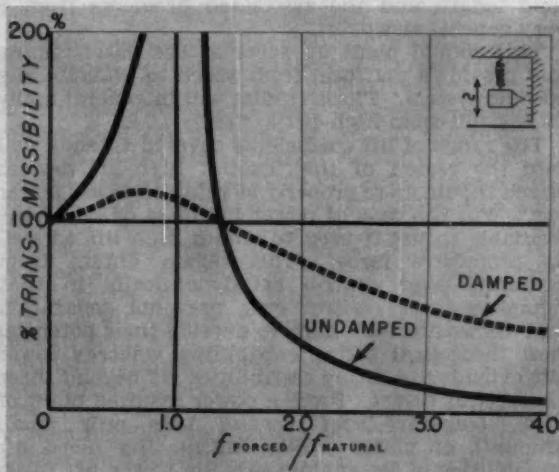

Fig. 5 — Damping is advantageous in the region where the ratio of impressed frequency to the resonant frequency approaches one (1).
As shown in Fig. 5, damping is advantageous in the region where the ratio of the impressed frequency to the resonant frequency approaches one (1), but for all values where the mounting can be expected to reduce transmission (of noise and vibration in this case), the presence of damping makes transmissibility worse. Fortunately, the bad effect of dampening is not severe, hence a desired mount efficiency may have a reasonable tolerance spread to satisfy manufacturing needs and to maintain optimum damping within the operating temperature variations.